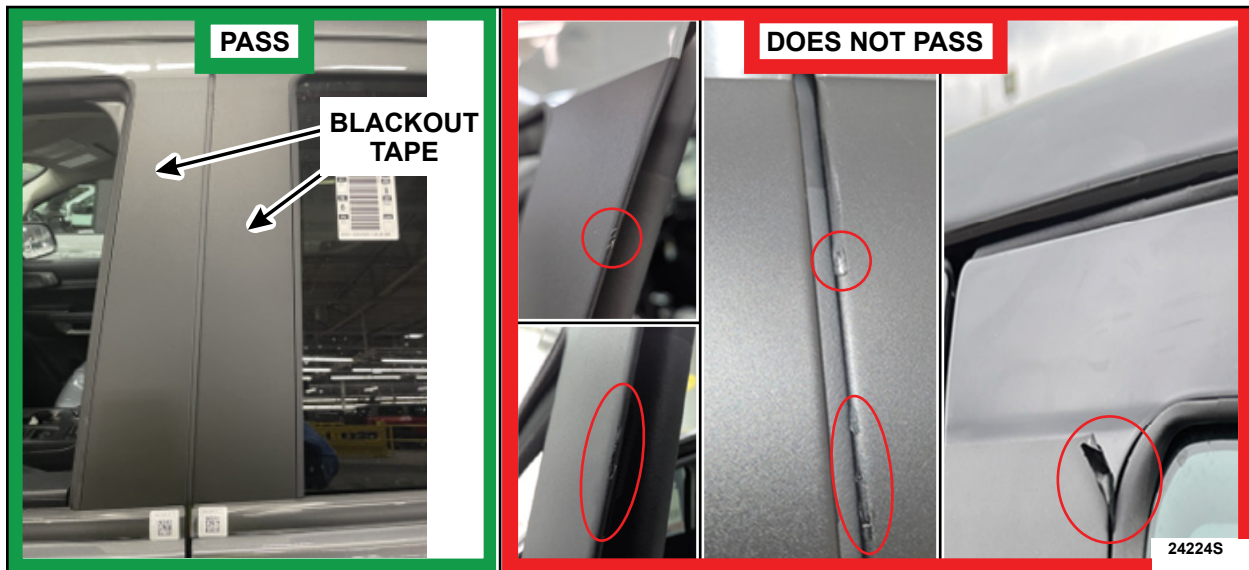

FIGURE 6
11. Verify the blackout tape is present and not damaged. See Figure 6.